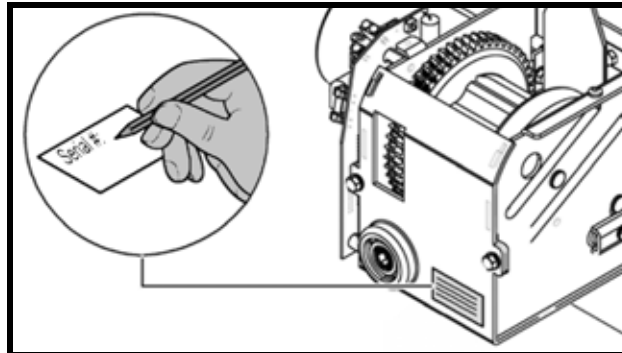

Fig. 28
- 5) Copy the serial number of the unit in the blank area on the label already applied on the new transmission (see Fig. 28).